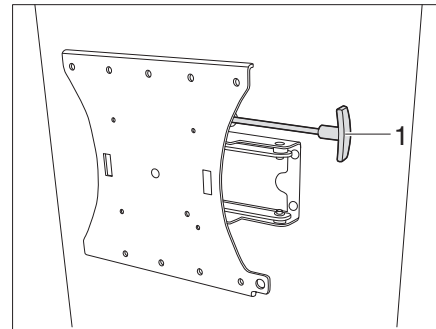

Fig. 132 Holder with jointed arm (variant 2)
- Pull the lever (Fig. 132,1) to release the flat screen from the latch.
- Push the lever (Fig. 132,1) back in to lock.